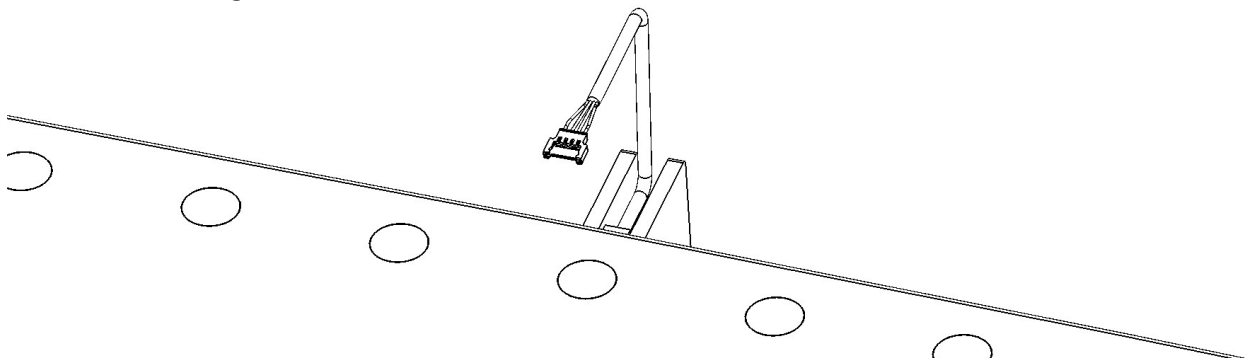

Fig 12.8b
- To protect the cable during the stretcher fitting, its recommended to fold the cable onto the stretcher and hold it there until the stretcher is fully secured, as shown in Fig. 12.8b.